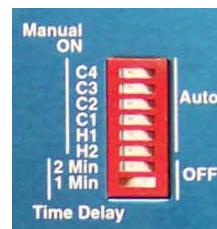

Figure 5: All switches for heating and cooling stages are pushed to the AUTO position. Time-Delay is set to 3 minutes. The 1 Min switch is pushed-ON.
A) (Figure 5) Use the **Manual ON** switches to activate and test each stage of heating and cooling. Figure 5 shows that C4 through H2 are pushed to the Auto position. To test each stage, push-ON each stage and verify that the RED light is activated at the terminal strip of the Tstat24 and that the proper piece of heating/cooling equipment is also activated.
B) (Figure 5) **Time-Delay** controls the rate at which the Tstat24 changes from one heating/cooling stage to another. Typical Time-Delay is 1 to 3 minutes. A maximum Time-Delay of 3 minutes (2+1) is possible. For the following tests, push-OFF all time-delay switches. Then the Tstat24 will change stages once every 15 seconds, if needed. After the following steps, then return to set the Time-Delay.